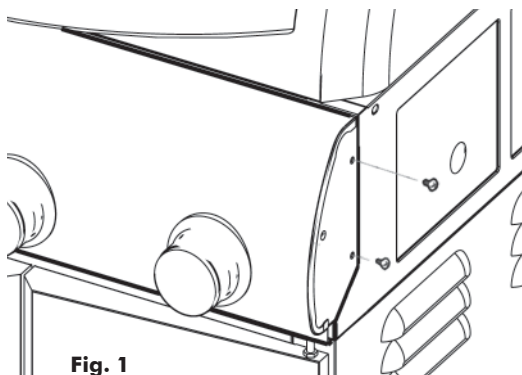
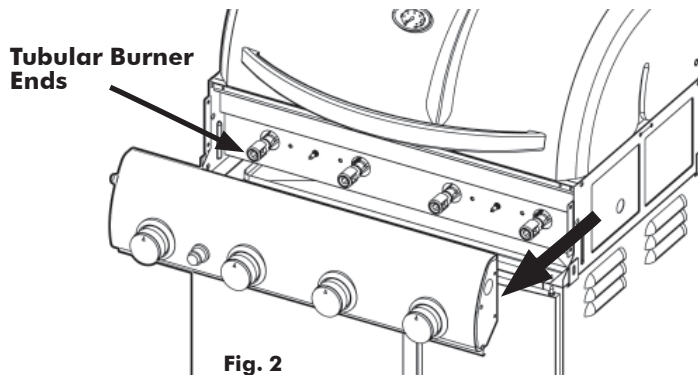

Fig. 1
Fig. 2
4. Figures 1, 2, 4 and 4a show the grill at assembly step 9, prior to attaching the Side Tables, and illustrate the initial steps in the “FIRST TIME USE LEAK TEST”.
Detach the Control Panel from the Grill Body/Firebox by removing the two 5/32” Bolts from each end. (Fig. 1) Gently pull the Control Panel away from the Body until Valves disengage from the Tubular burner ends. (Fig. 2) Support the Control Panel to keep tension off of the igniter wire leads or detach the wire leads from the Starter Button module.
10. Re-attach the wire leads to the Igniter Button. Replace Control Panel around flanges at Bowl ends and align bolt holes on each side. Replace and retighten all bolts. (Fig. 1)